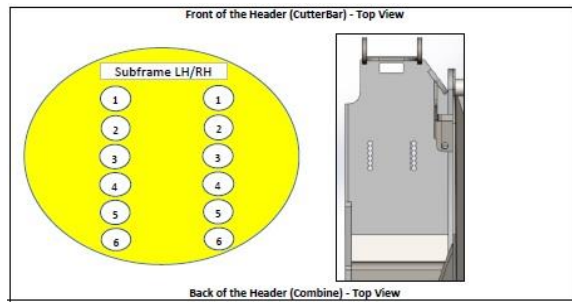

Figure 214
8. On Model Year 2021 and above the airbags have 6 different positions. Factory setting is still number 1. Figure 214